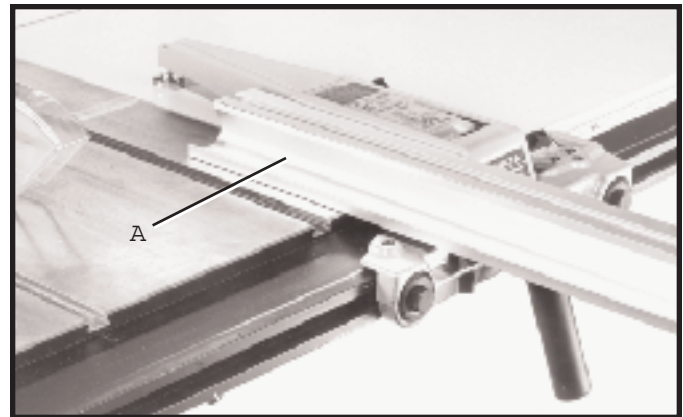

Fig. 65
The fence can be used as a cut-off gage when cross cutting a number of pieces to the same length. **IMPORTANT:** When using the fence as a cut-off gage, it is very important that the rear end of the fence be positioned in front of the saw blade. When using the fence as a cut-off gage, simply position the fence (A) to the front as shown in Fig. 65, or purchase the accessory 34-878, 12 long fence (B), as shown in Fig. 66. Fig. 67, illustrates a typical operation using the accessory 34-878 12 long fence (B) as a cut-off gage.